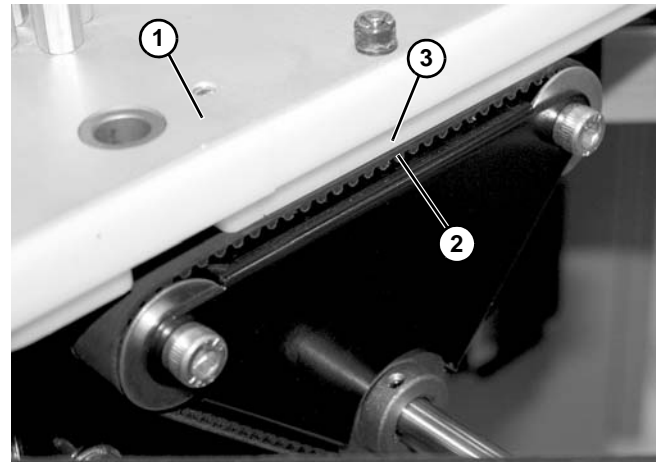

Figure 73
5. Place pallet (Figure 73, item 1) on corner assembly. Position corner assembly so that belt (Figure 73, item 2) and pallet skirt (Figure 73, item 3) line up as shown.